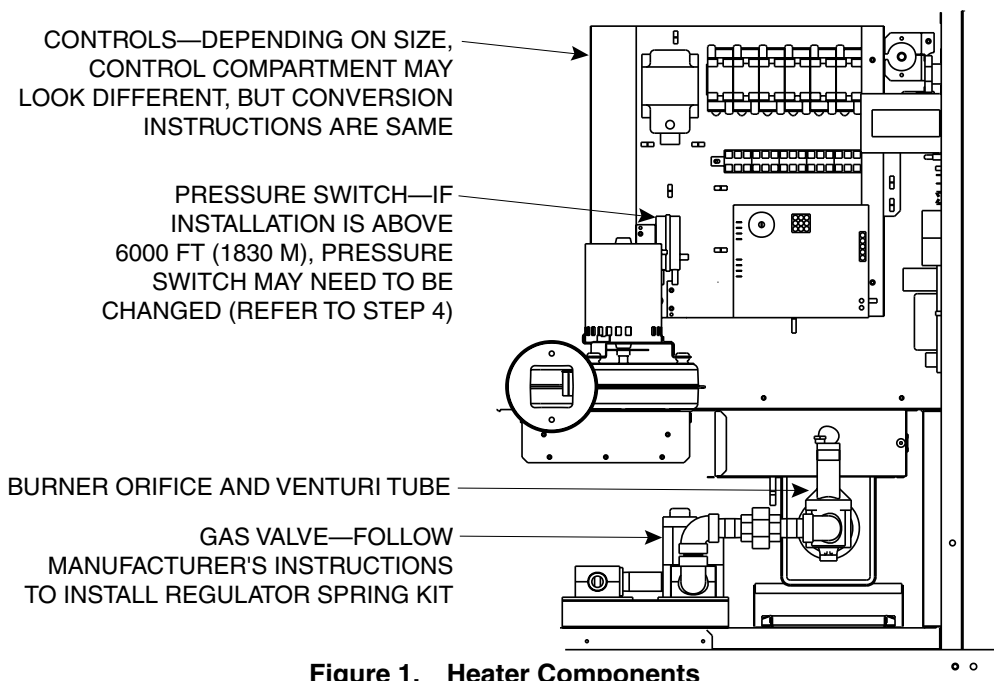

Figure 1. Heater Components
2. Install regulator spring kit (see Figure 1 for heater component location).
- a. If pressure switch replacement is required, locate pressure switch in controls compartment (see Figure 1) and mark and disconnect two pressure switch wires.